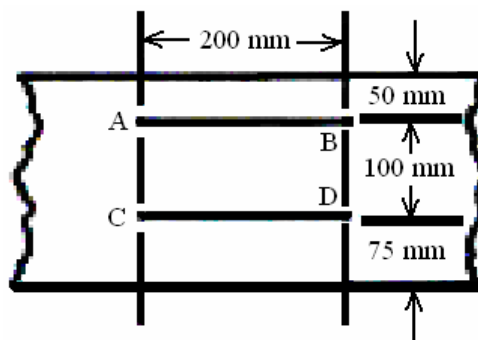

Figure 3
3. In a laboratory test of a beam loaded by end couples, the fibers at layer AB in as shown in Figure 3 are found to increase 30×10^{-3} mm while those at CD decrease 90×10^{-3} mm in the 200 mm gauge length. Using $E = 100$ GPa, determine the flexural stress in the top and bottom fibers. [15]